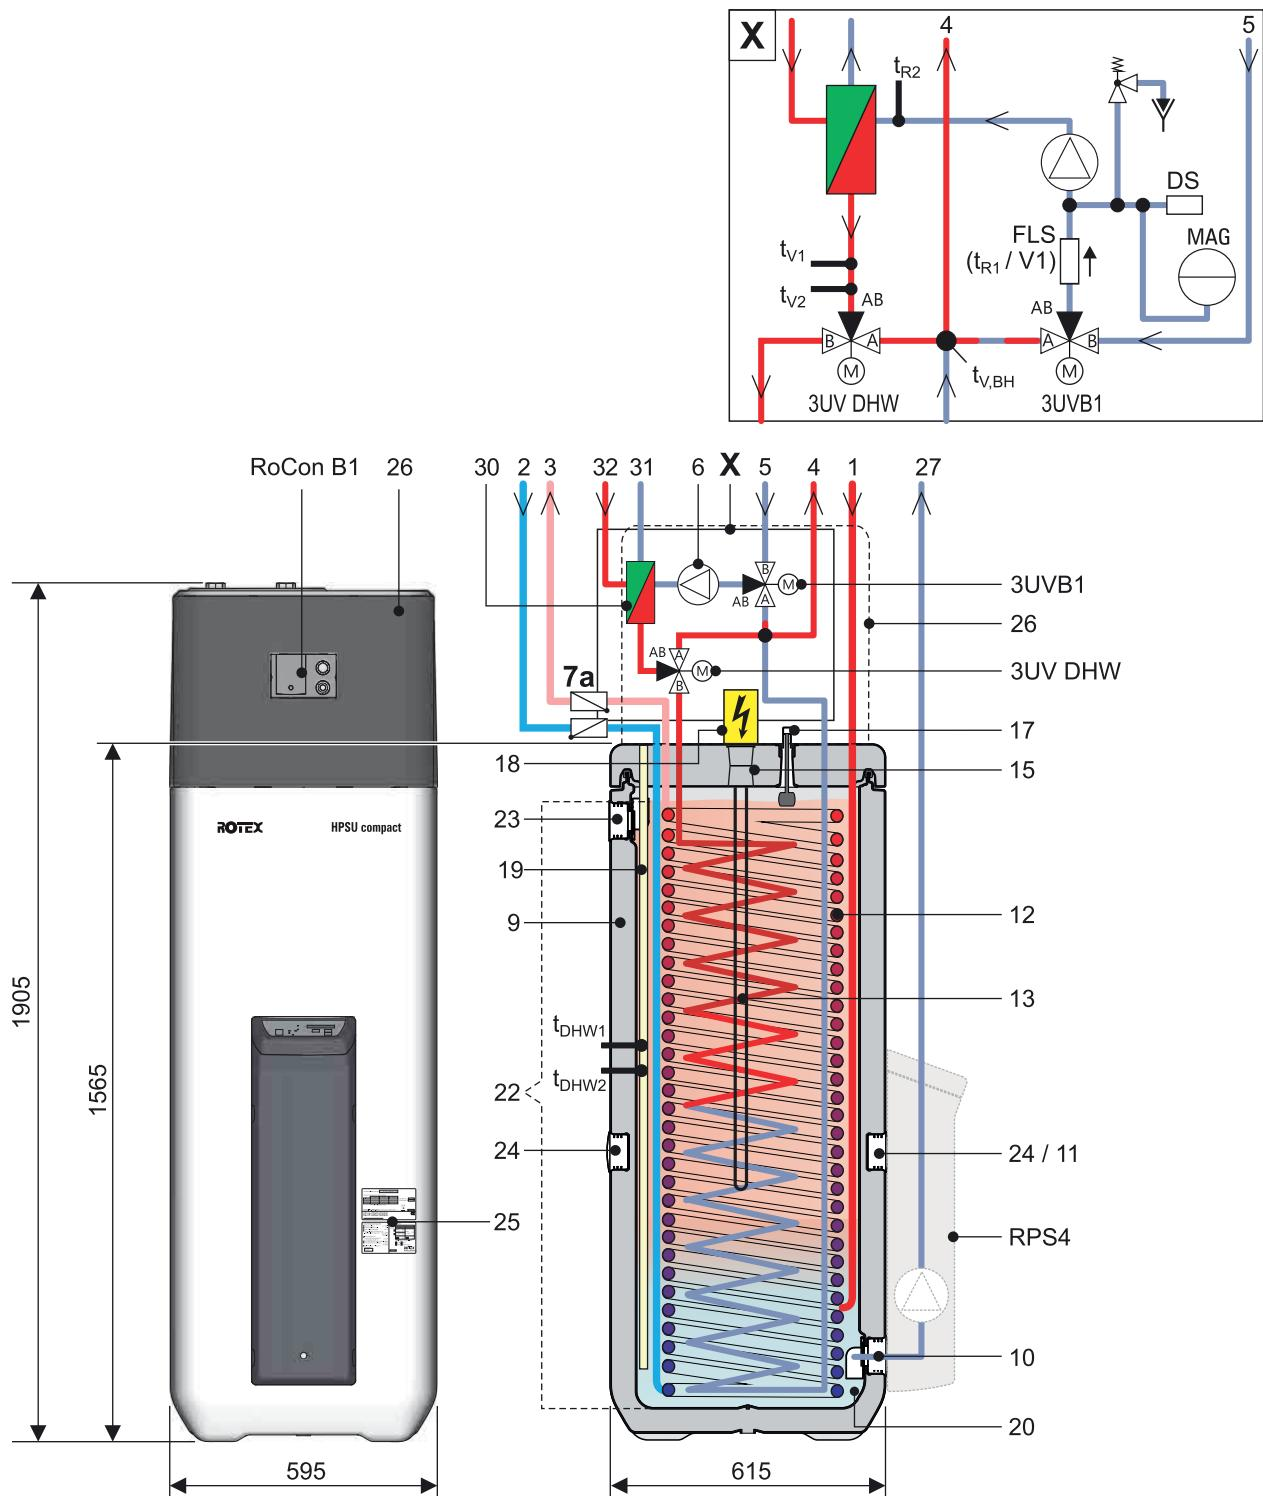
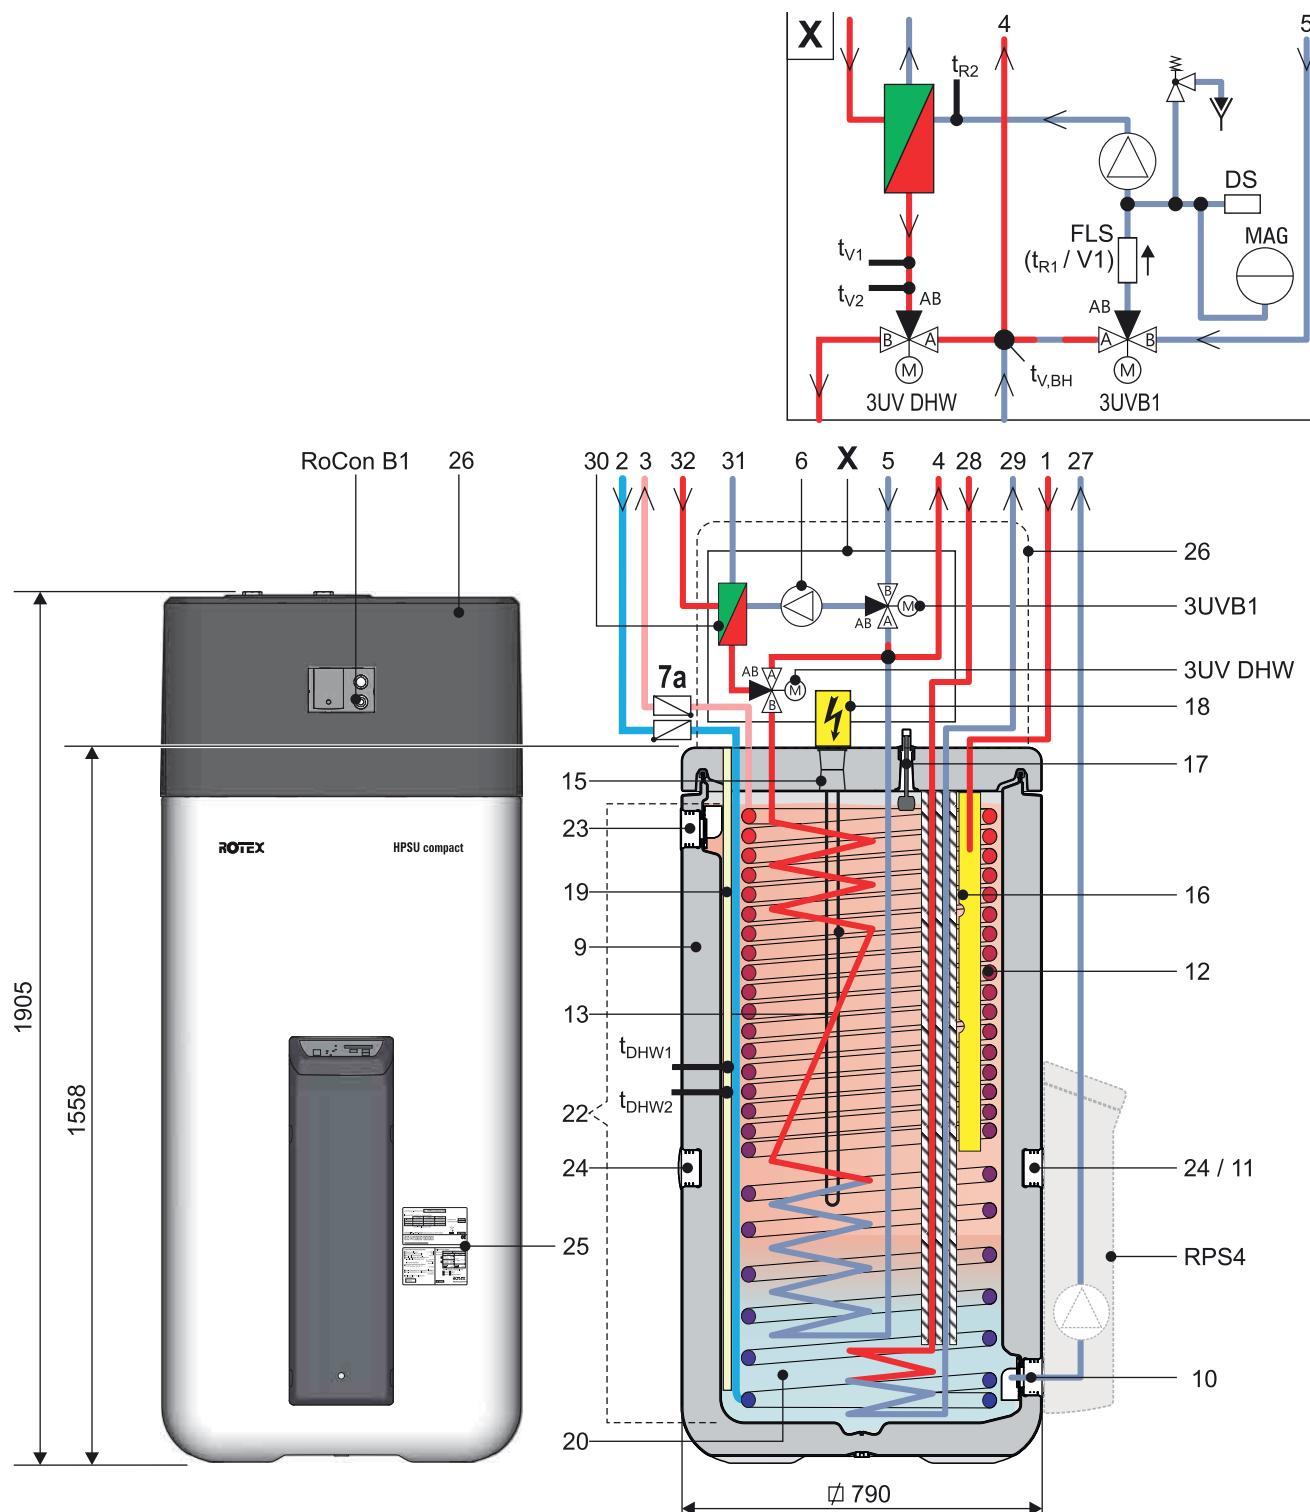

Fig. 3-2 Structure and constituents ROTEX HPSU compact 304/308 DB (External appearance and internal structure)
Fig. 3-5 Structure and constituents ROTEX HPSU compact 508/516 BIV (External appearance and internal structure)
Tab. 3-1 Legend from fig. 3-2 to fig. 3-5
- Remove the cover plates on the storage tank (fig. 4-4, item B) and unscrew the threaded pieces (fig. 4-4, item F) from the apertures on which the handles are to be mounted (fig. 3-2 to fig. 3-5, item 24).